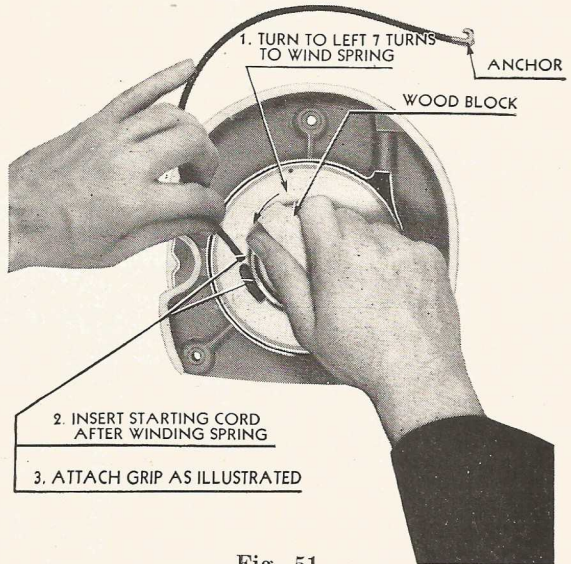

Fig. 51
4. Cut a small piece of wood to fit in ratchet as shown in Fig. 51.
5. Turn in anti-clockwise direction (right to left) 7 turns, using marker as indicated. Fig. 51 (Be sure to turn right to left—to do otherwise will damage the recoil spring).
6. Insert starting cord as illustrated. Fig. 51.